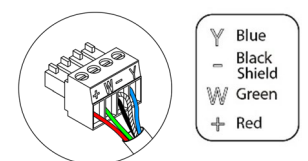

Fig. 47
It has a 4-pin terminal to connect the thermostat ④. Attach the wires with the terminal screws following the color code (Fig. 47).